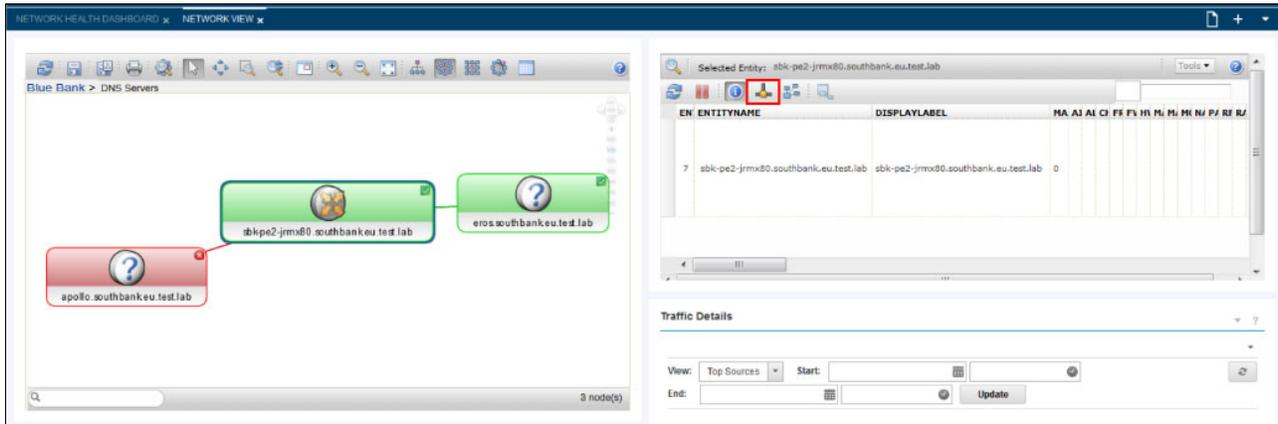

Figure 2-33 Selecting the Show Interfaces icon within the Structure Browser for the secondary DNS server's switch
- Brock drills down to the Port where the Secondary DNS server is connected by clicking the **Show Interfaces** icon within the Structure Browser, as shown in Figure 2-33.